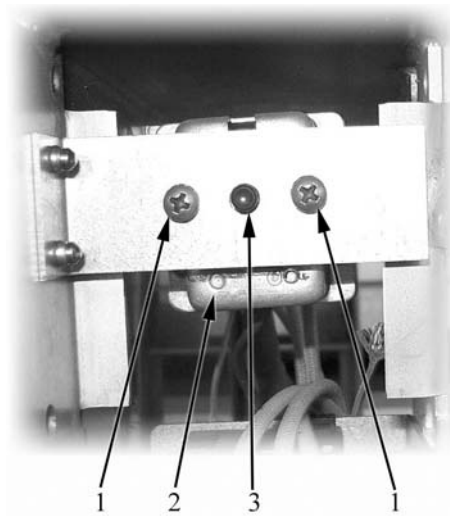

Fig. 17
- unscrew the fixing screws of the thermostat (item 1 in Fig. 17) and remove it (item 2 in Fig. 17);
- press the reset button (item 3 in Fig. 17) until you hear a metal click;